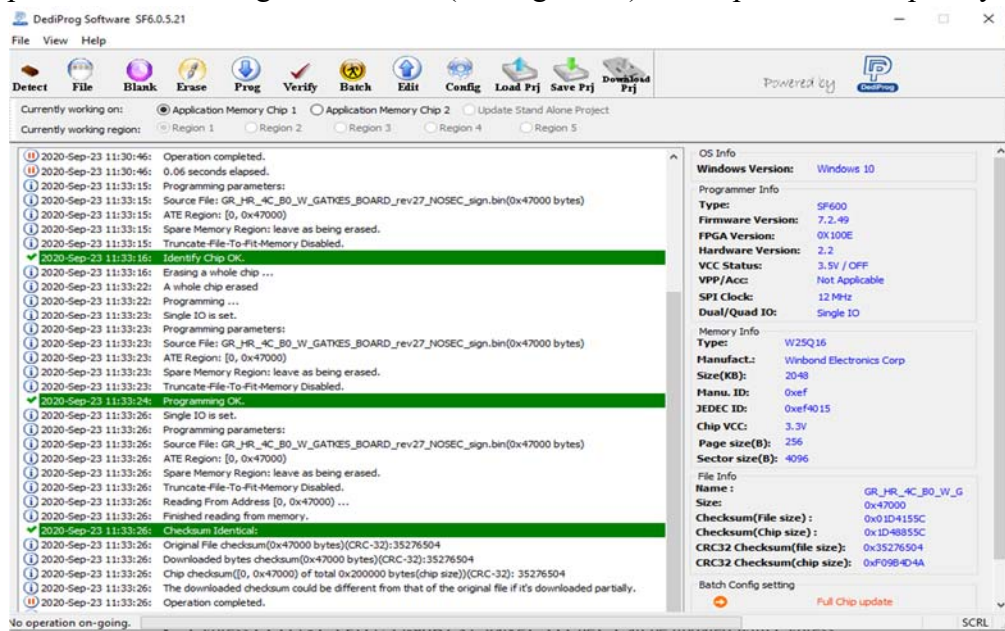

Figure 24: All stages are PASS
- Step 5: Wait for all stages are PASS (see Figure 24), and Operation Completely